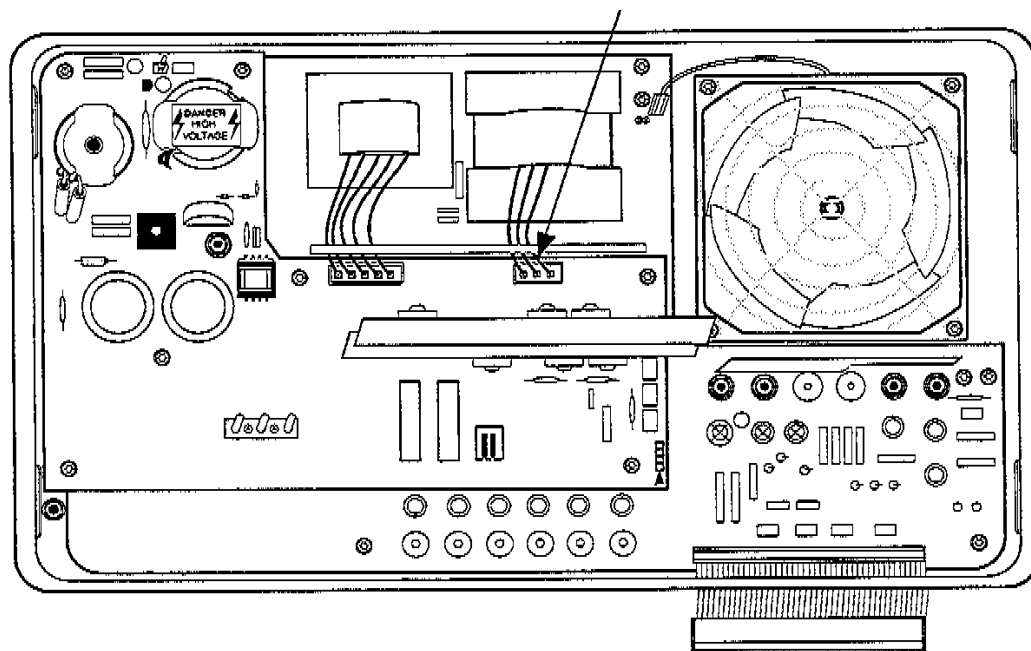

Figure 4-13. Main transformer connector location.
2. Open the module and unplug the main switching transformer connector (Figure 4-13). Be sure to position the connector so it cannot short to surrounding parts.